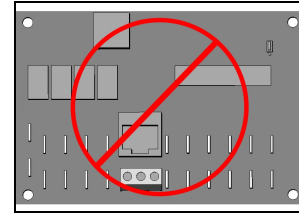

Figure 7
- Do not attempt to connect heat pump equipment in a multiple configuration with previous HP7 and HP7R versions of the microprocessor. See Figure 7. No on-board connections are provided for heat pumps with these microprocessor versions. An Automatic Sequencing Controller (ASC) accessory is required for those types of heat pumps.